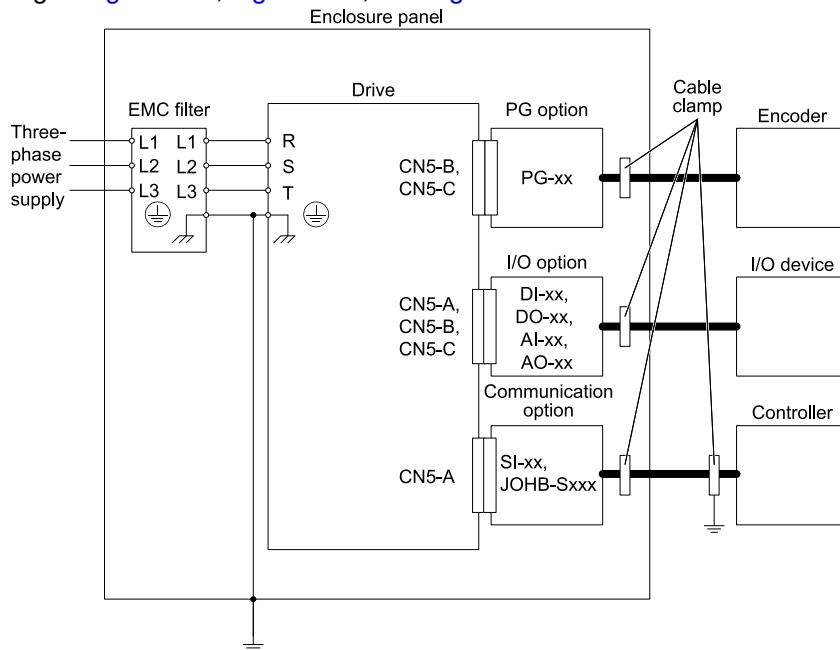
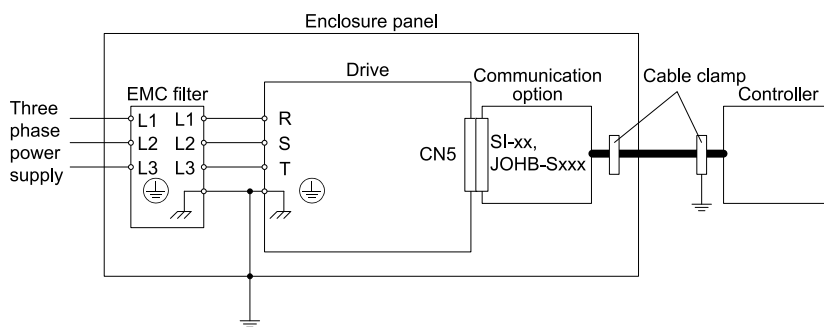
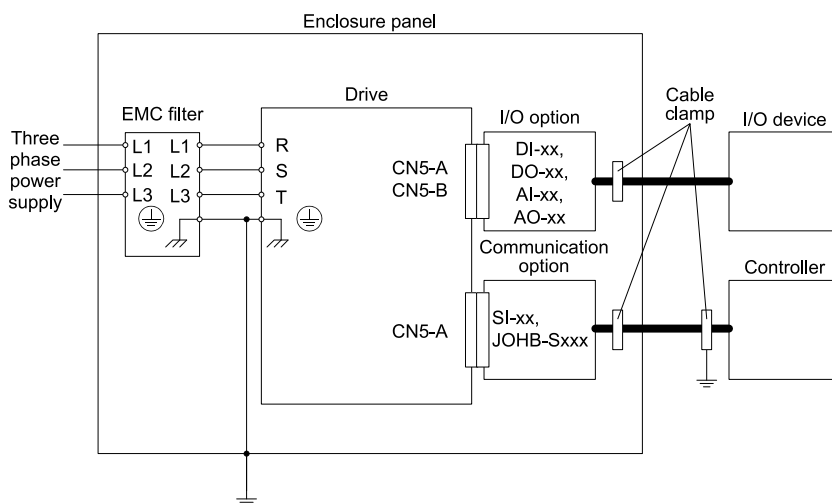

Figure 11.2 Option Installation for CE Compliance: 1000-Series, GA700, GA800, CR700, CH700
Figure 11.3 Option Installation for CE Compliance: GA500, HV600
Figure 11.4 Option Installation for CE Compliance: FP605
2. Keep wiring as short as possible and ground the largest possible surface area of the shield to the metal panel according to Figure 11.2, Figure 11.3, and Figure 11.4.